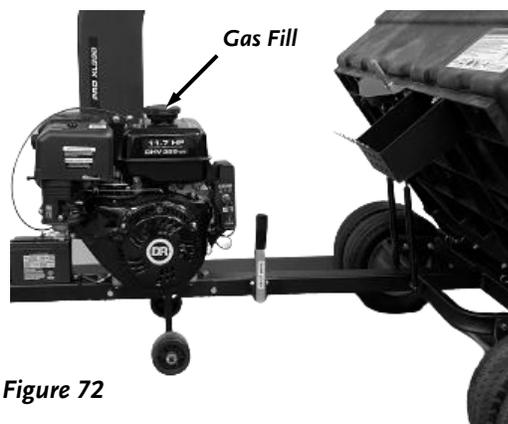

Figure 72
1. Fill the gas tank (**Figure 72**) to within 1-1/2 inches below top of fill neck (to allow for fuel expansion) with fresh, unleaded gas. See your Engine Owner's Manual for more information.